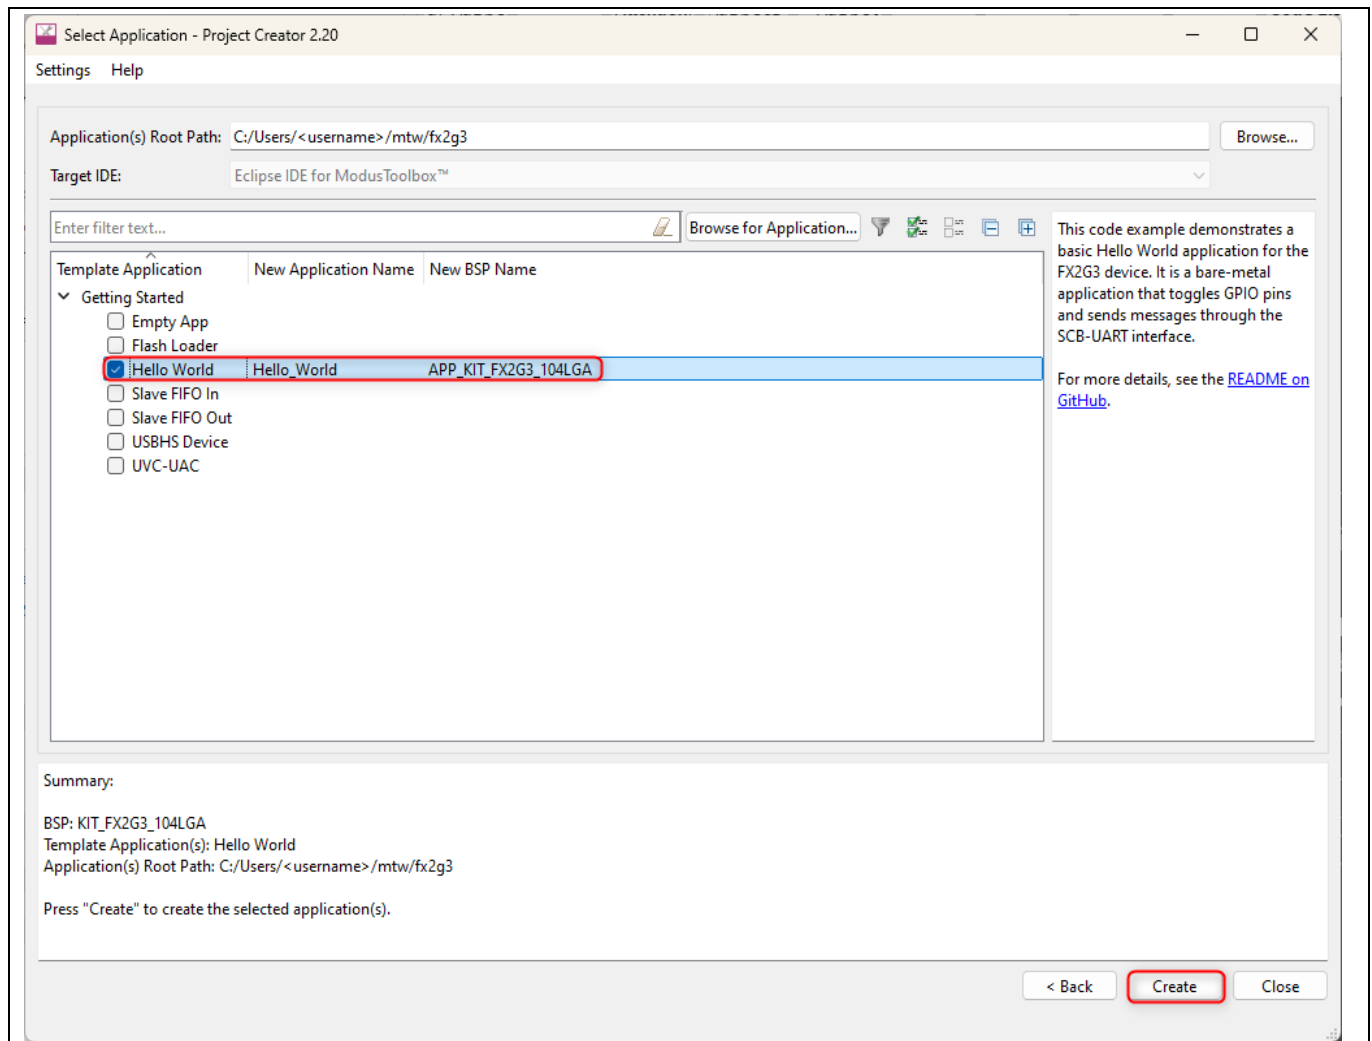

Figure 5 Selection of application
4. To create an application, choose the desired template from the list of available applications shown in the Figure 5, and then click on **Create**.